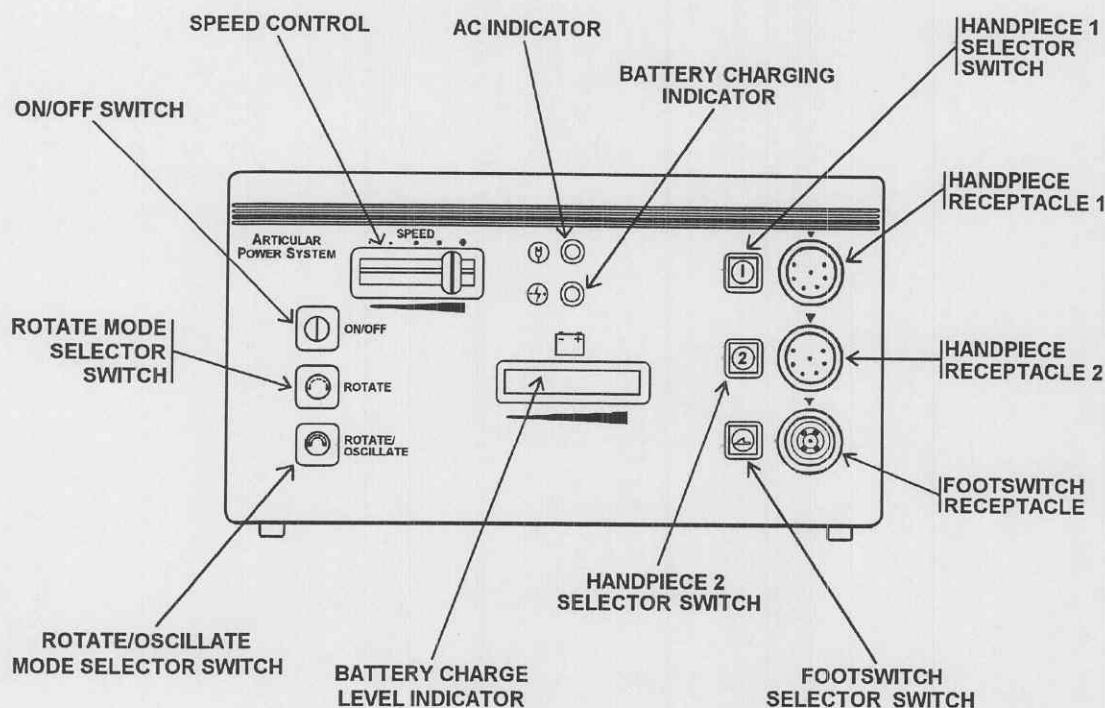

Figure 2-2. APS controls, indicators, and receptacles.
2-4. APS controls, indicators, and receptacles (fig 2-2).
- f. Observe that the handpiece speed is determined by the position of the APS console sliding **SPEED** control switch (fig 2-2). The handpiece speed can be adjusted by sliding the **SPEED** control to the left or to the right. The handpiece speed can be adjusted during operation.
b. Ensure that the **SPEED** control (refer to fig 2-2) is moved to the left position.